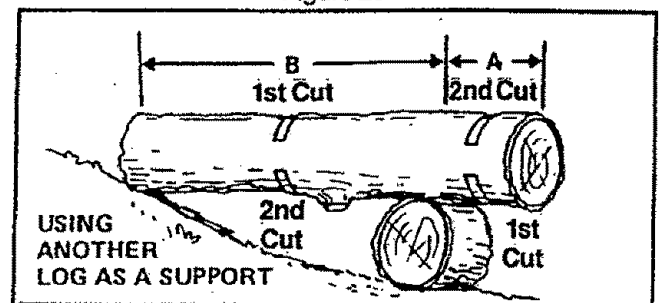

Figure 26
4. BUCKING — USING ANOTHER LOG AS A SUPPORT (Figure 26):